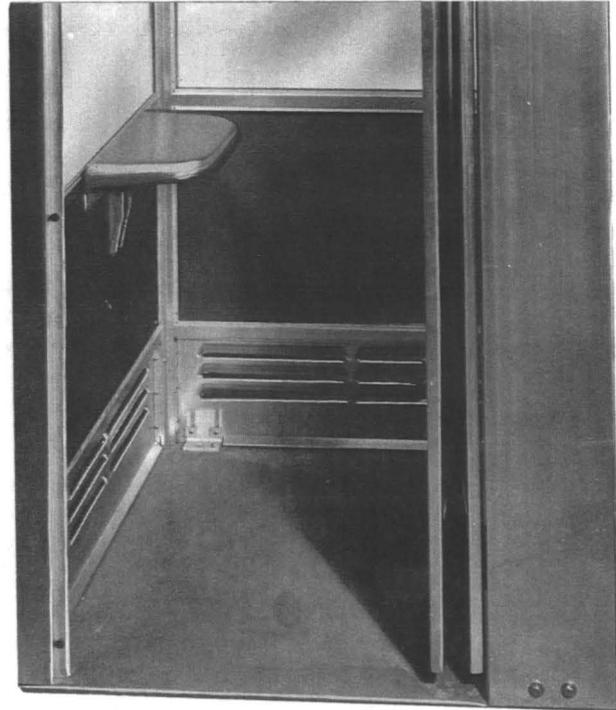

**Fig. 16 — Location of Card Frame Holes**
**8.01** Booths are provided with mounting holes for card frames. Earlier KS-14611 booths do not have these holes. To install card frames in these booths, proceed as follows: drill and tap intermediate side rail as shown in Fig. 16 to receive two No. 10-32 by 1/2 inch FHM screws (Phillips) furnished with card frame.